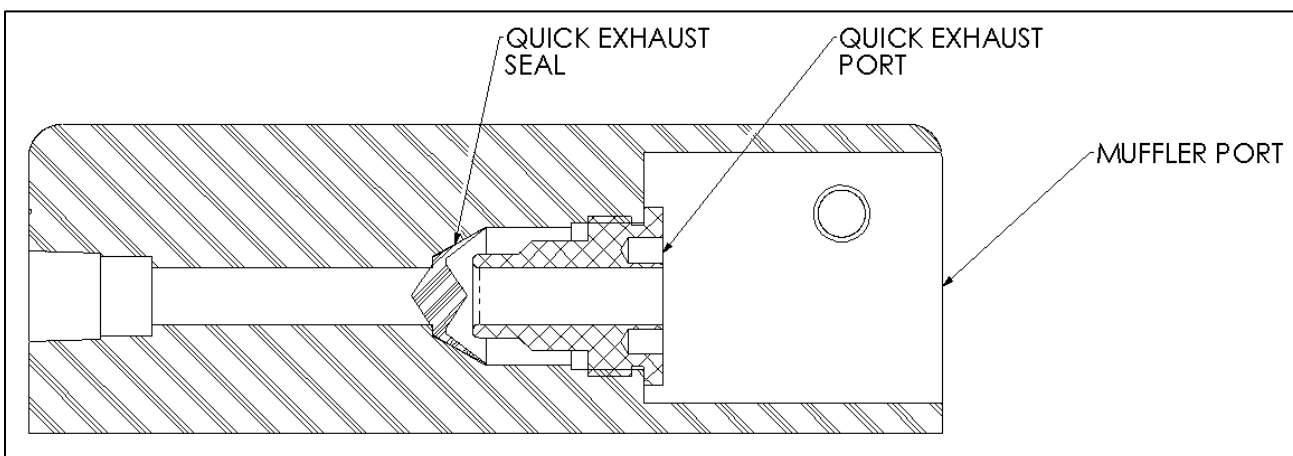

Figure 4-4: Quick Exhaust Port Assembly
- Insert the Quick Exhaust Seal into the bottom of the muffler port. See Figure 4-4.